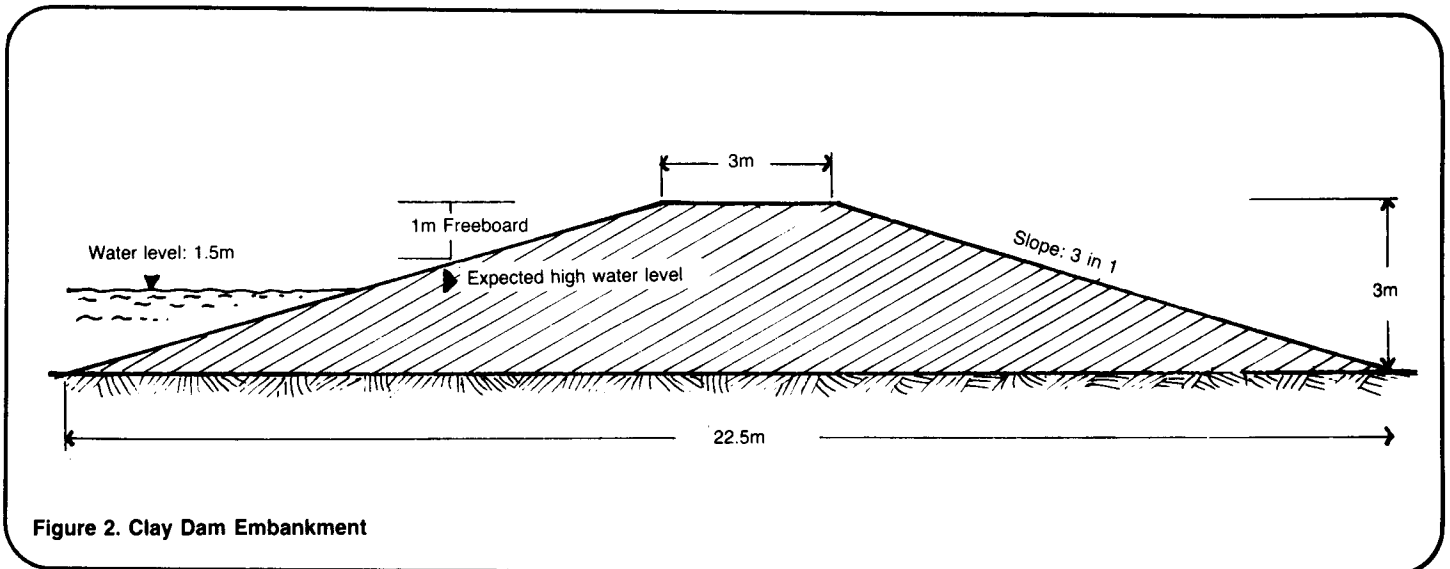

Figure 2. Clay Dam Embankment
3. A detailed plan of the dam and related structures with all dimensions similar to that shown in Figure 2.
Width of the base = (Height of the dam x downstream slope) + (height of dam x upstream slope) + (width of the top). For example, consider a clay dam with a reservoir with the dimensions shown in Worksheet B. Assume a depth for flood channels of 0.5m, a freeboard of 1m, and a top width of 3m. Worksheet B shows how to determine the dimensions of the embankment. Figure 2 shows a dam embankment with the dimensions from Worksheet B.